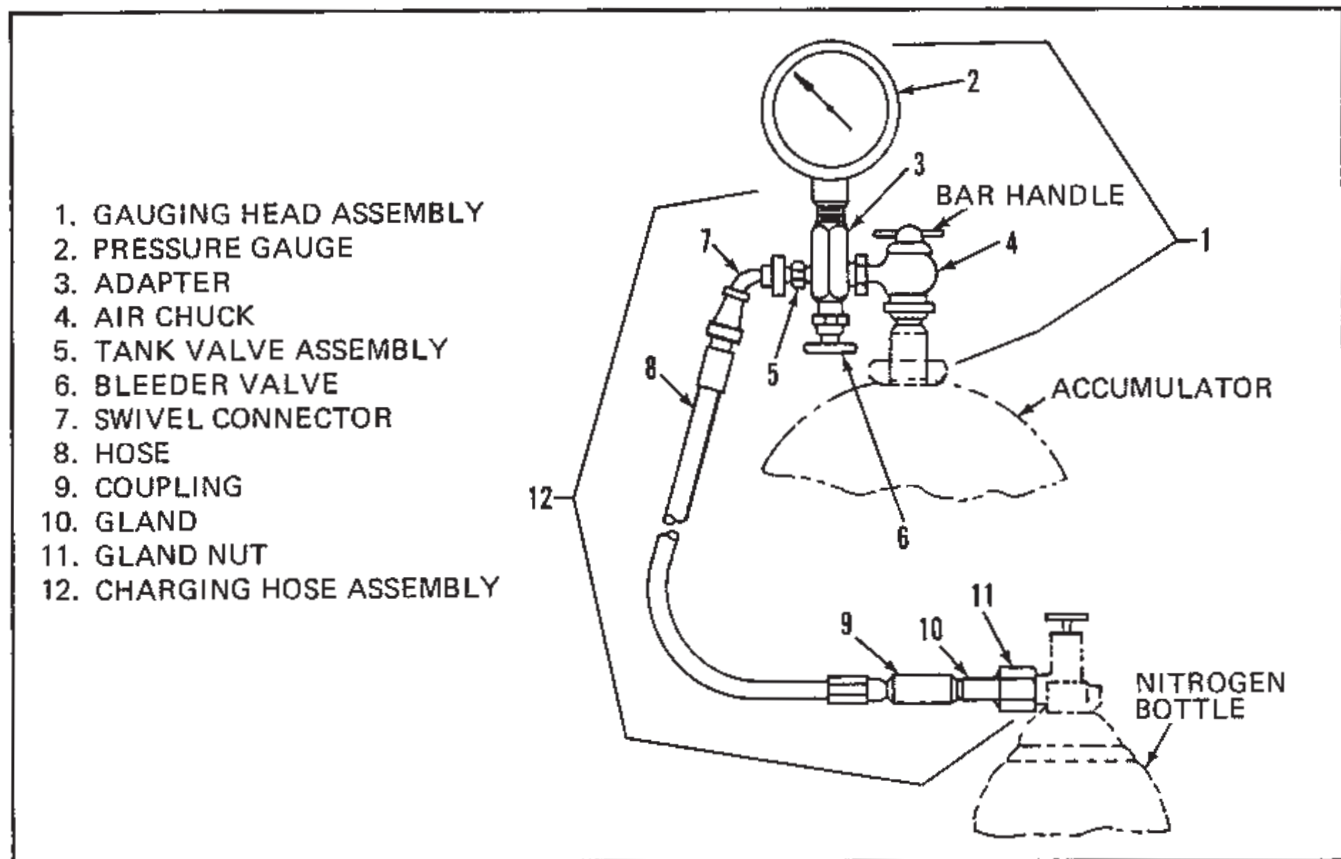

Figure D-1. Charging Accumulator
1. To charge the accumulator, the following items are required. A gauging head assembly (see figure D-1), consisting of an air chuck, bleeder valve, gas charging tank valve, and pressure gauge mounted into an adapter and attached, as one unit, directly to the gas valve assembly of the accumulator. Once attached, the gauging head assembly enables the precharge to be checked, increased or decreased. Readings of normal accumulator operating pressure may also be taken with the gauging head assembly.
1. Install the gauging head assembly (1, figure D-1) as explained in "Checking Precharge".
2. Install the gland nut (11) of the hose assembly (12) on a nitrogen bottle.
3. Remove the cap from the tank valve (5) and attach the swivel connector (7) of the hose assembly (12). Hand tighten a sufficient amount to compress the gasket in the swivel to prevent gas leakage.
4. Inflate the accumulator to the predetermined pressure by opening the valve on the nitrogen bottle slowly, closing it occasionally to allow the needle of the pressure gauge (2) to settle into position giving an accurate pressure reading.